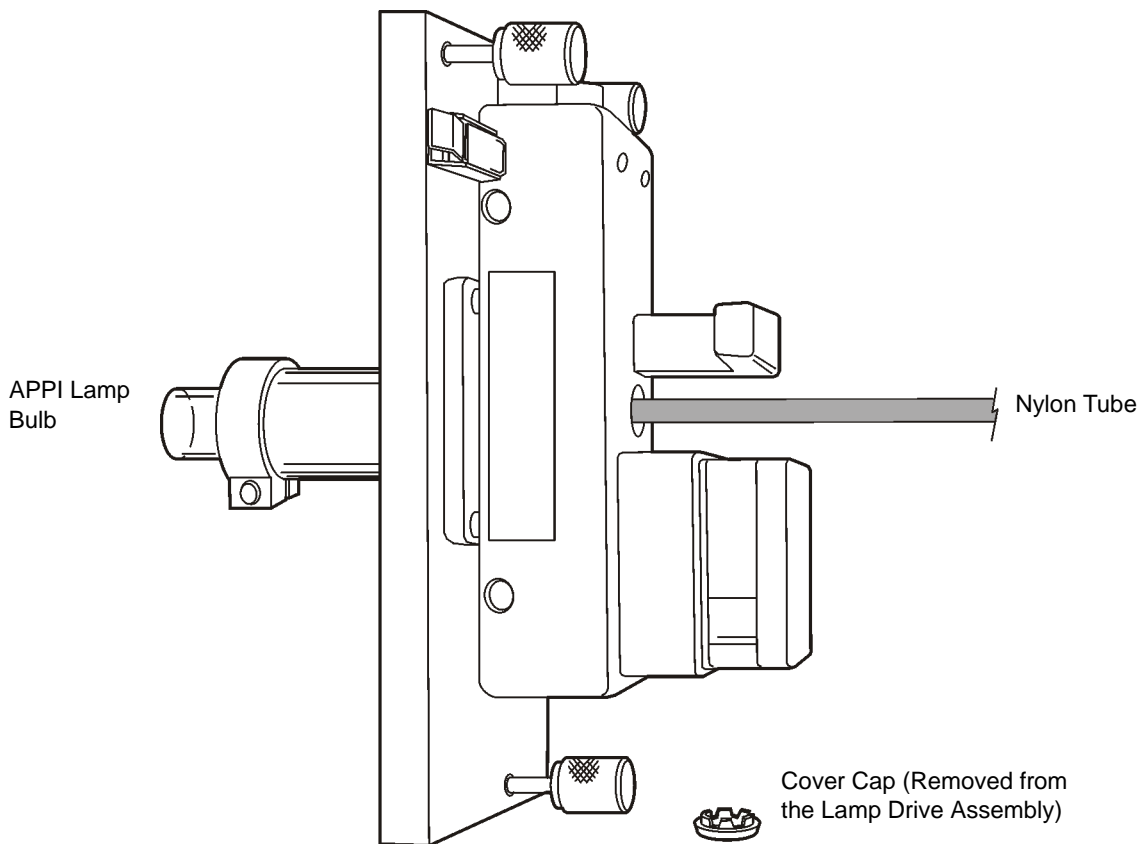

Figure 8-9 Changing the APPI Lamp Bulb
6. Remove the cover cap from the back of the lamp drive assembly (Figure 8-9).